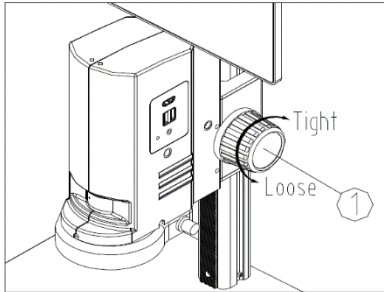

Fig. 5
- 1) To adjust the focusing tension, grip and hold the left knob and rotate the right knob ①. Focusing tension will tighten when rotated in a clockwise direction, and loosen in counterclockwise. (See Fig. 5)